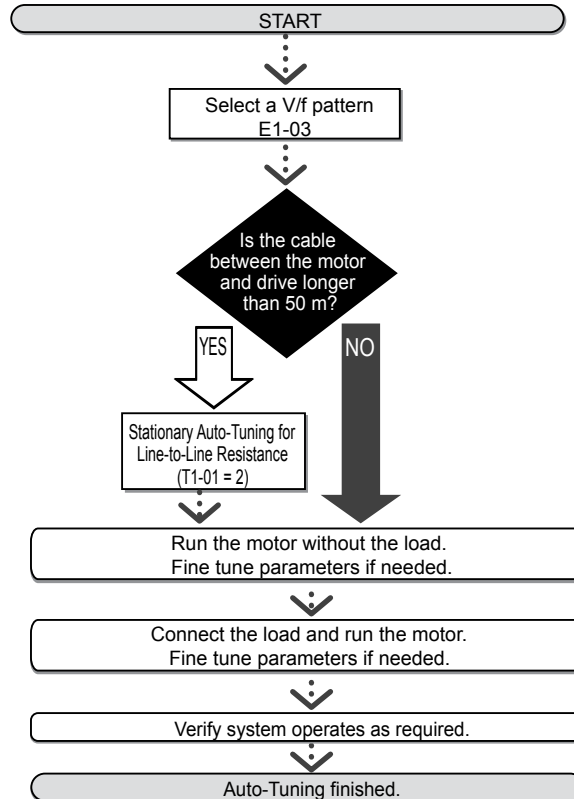

Figure 4.18
2. Determine which type of Auto-Tuning best fits the application requirements following Figure 4.18.